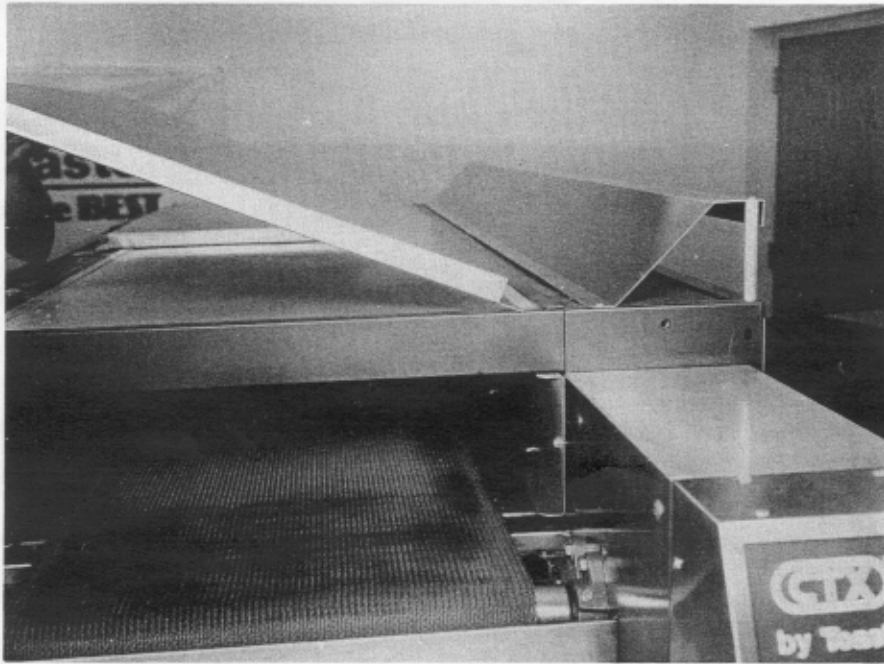

Figure 2-3
2. Mount insulated top panel(s) by slipping panel lip into groove on top of oven as shown in Figure 2-3.